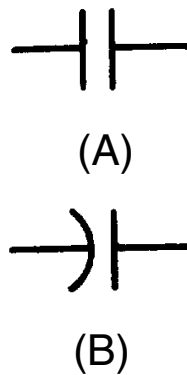

Figure 3-5.—Circuit symbols for capacitors.
Notice that the orbits of the electrons in the dielectric material are distorted by the electrostatic field. The distortion occurs because the electrons in the dielectric are attracted to the top plate while being repelled from the bottom plate. When switch S1 is opened, the battery is removed from the circuit and the charge is retained by the capacitor. This occurs because the dielectric material is an insulator, and the electrons in the bottom plate (negative charge) have no path to reach the top plate (positive charge). The distorted orbits of the atoms of the dielectric plus the electrostatic force of attraction between the two plates hold the positive and negative charges in their original position. Thus, the energy which came from the battery is now stored in the electrostatic field of the capacitor. Two slightly different symbols for representing a capacitor are shown in figure 3-5. Notice that each symbol is composed of two plates separated by a space that represents the dielectric. The curved plate in (B) of the figure indicates the plate should be connected to a negative polarity.